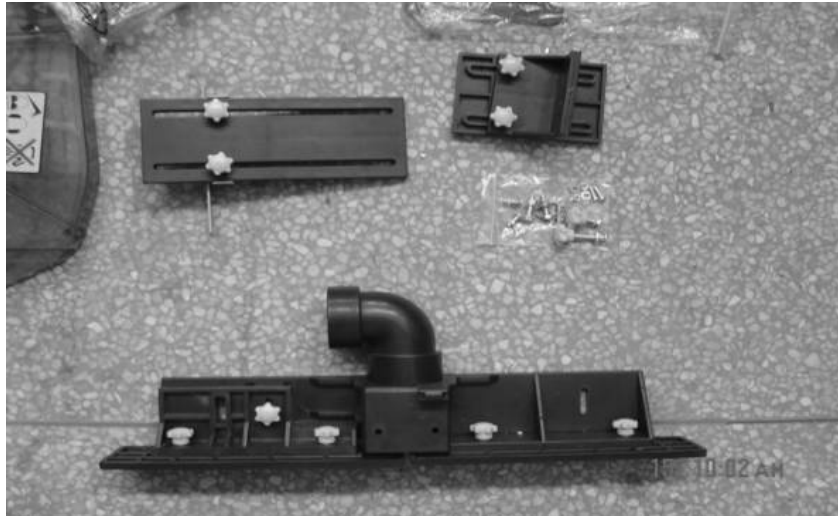

Figure 9
4. After carrying out the previous phases, the parts are as the ones of Fig. 9 below.